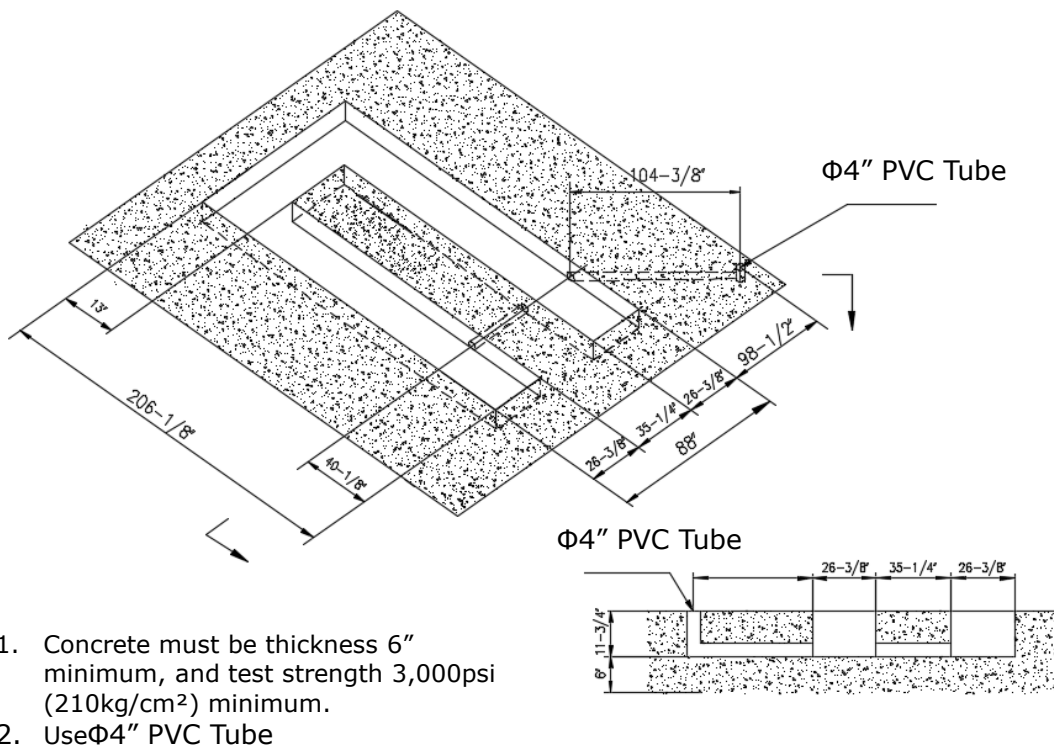

Fig. 5
2.1 Flush Mount Installation Foundation (Fig.5).